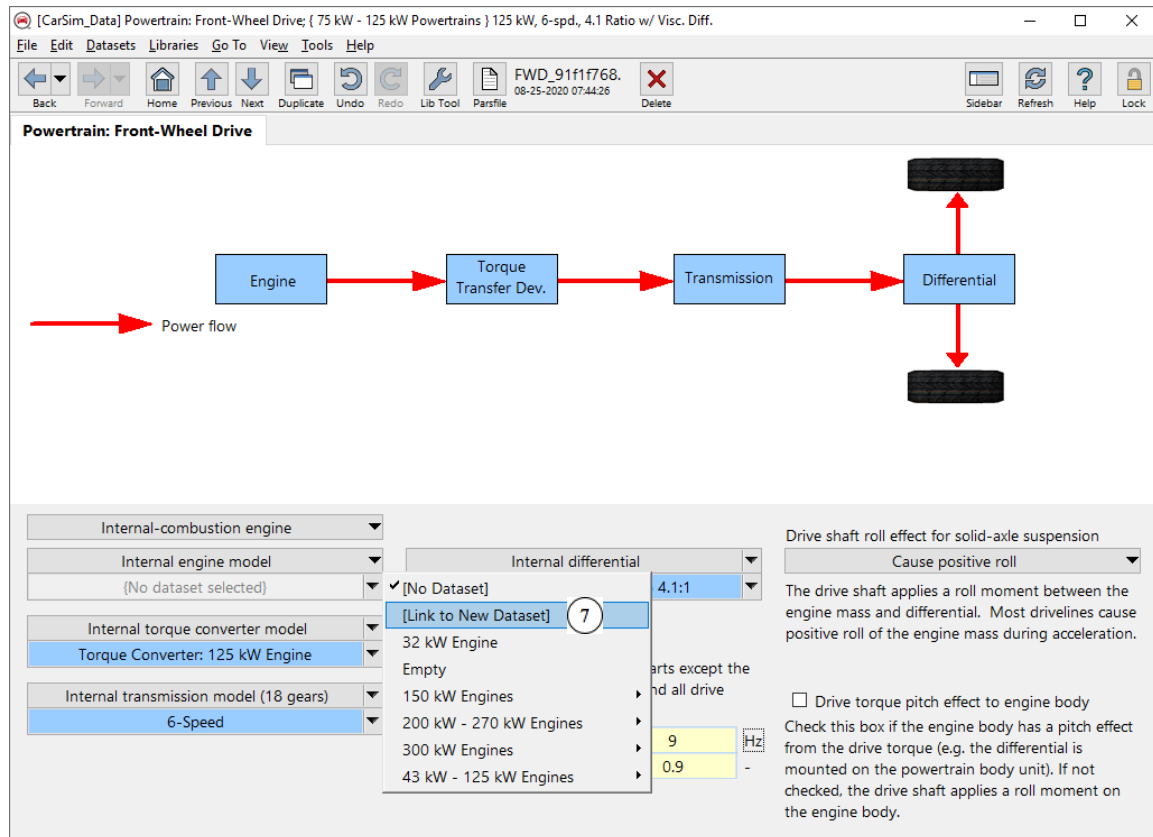

Figure 5: New Dataset creation within the '*Powertrain: Front-Wheel Drive* screen'
After the VS Table Tool runs successfully, the next step is to create a new Dataset which will be used to load the external table information. For the '*Internal engine model*' link in the *Powertrain: Front-Wheel Drive* library, clicking the dropdown arrow and select the '*Link to New Dataset*' (7) option (Figure 5). Click the newly created link to enter the new dataset.